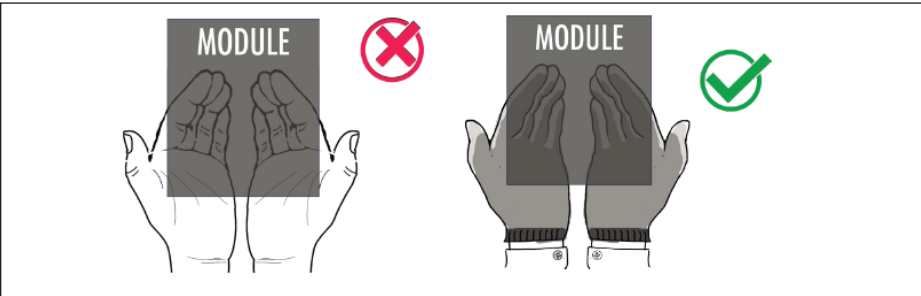

Figure 34: Wear Gloves while Handling Modules
- 1. Always wear gloves while handling modules. Refer to **Figure 34**.